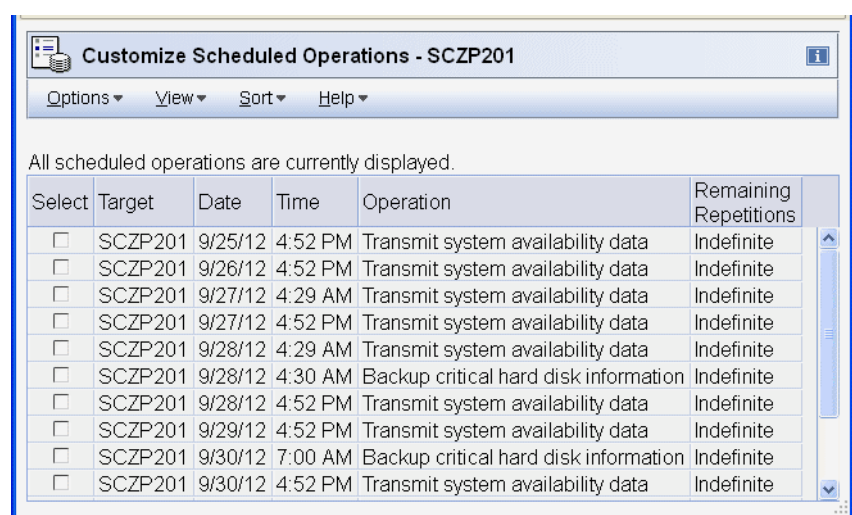

Figure 1-79 Customize Scheduled Operations - access external time source removed
- The final Customize Scheduled Operations panel confirms: there are no more access external time source scheduled operations to be executed (Figure 1-79).